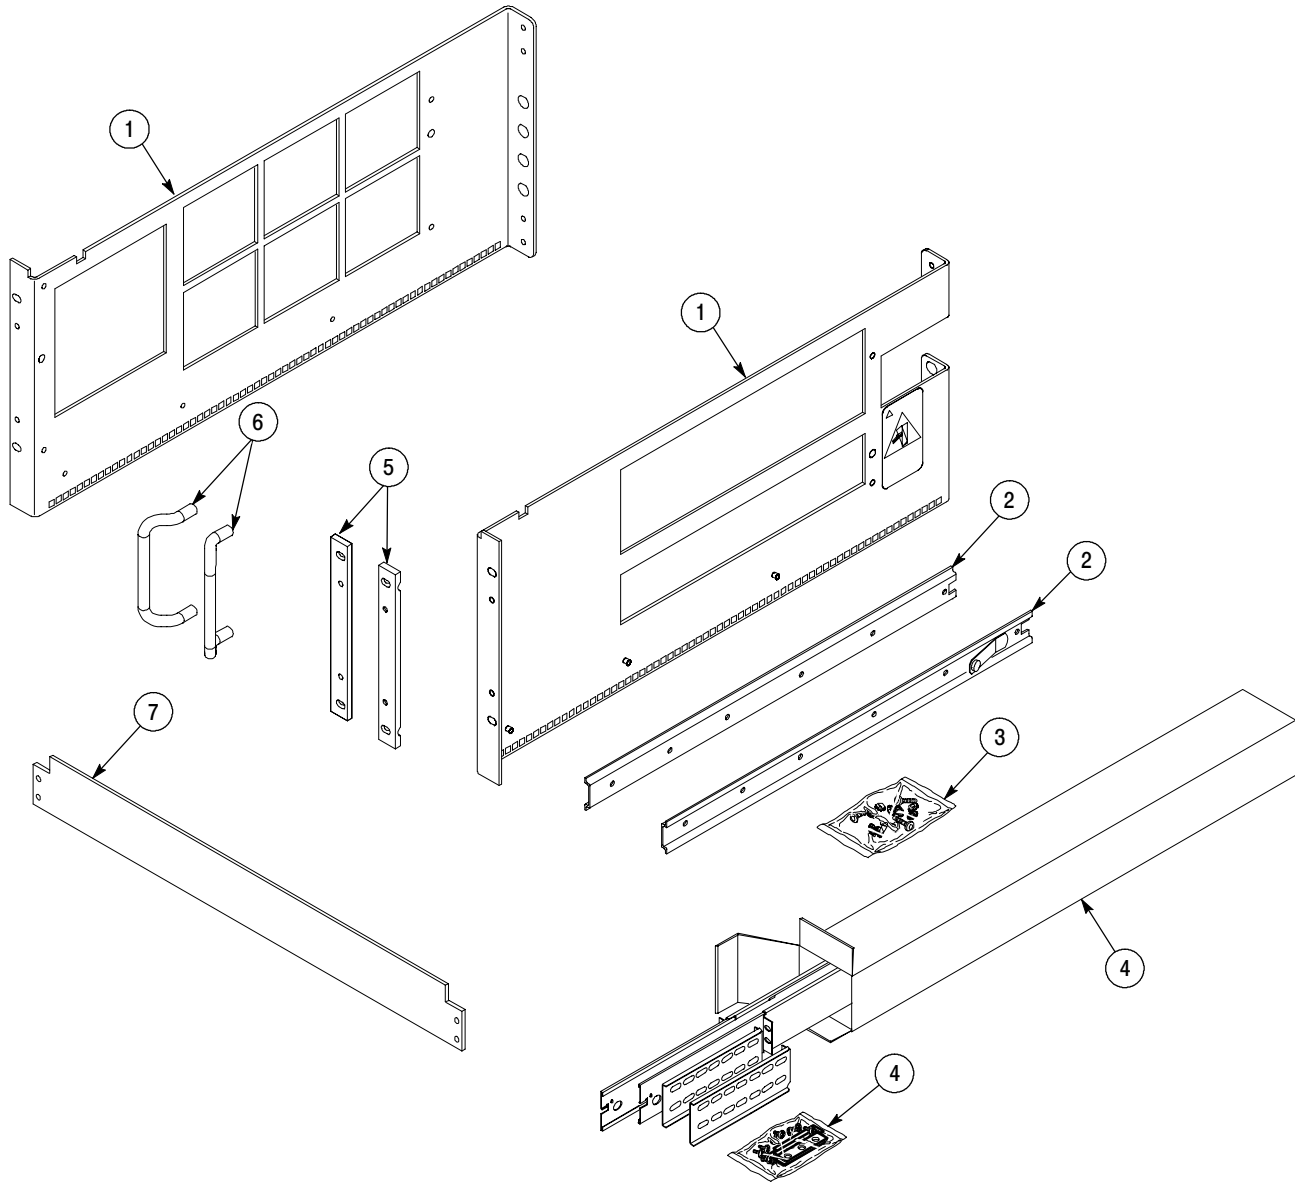

Figure 3: Rackmount kit parts
- Install the optional front trim panel if the uncovered blank space below the rack-mounted instrument is undesirable. Use the four 10-32 x 0.750 oval head phillips drive screws with four nylon washers to secure the front trim panel to the rack frame. See Figures 3 and 5 on pages 8 and 11.